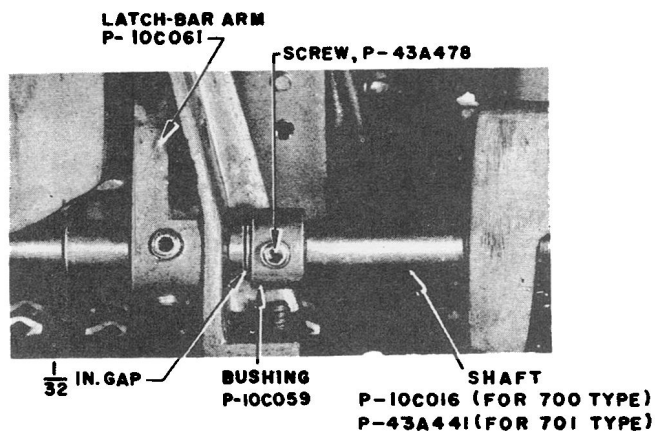
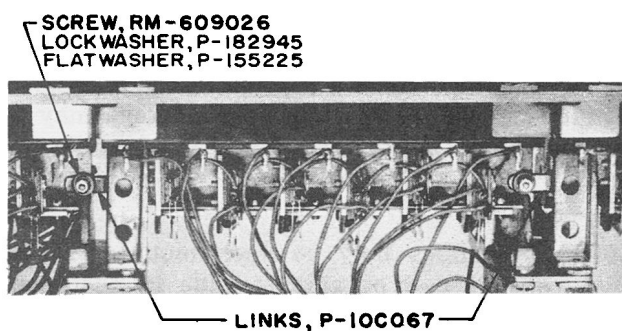

Fig. 3 — Side-by-side Assembly, Mechanical Linkage
Fig. 4 — End-to-end Assembly, Mechanical Linkage
2.06 On side-by-side assemblies, a bushing is used to join adjacent shafts (Fig. 3). Latch bars are joined together on end-to-end assemblies by means of a link (Fig. 4).